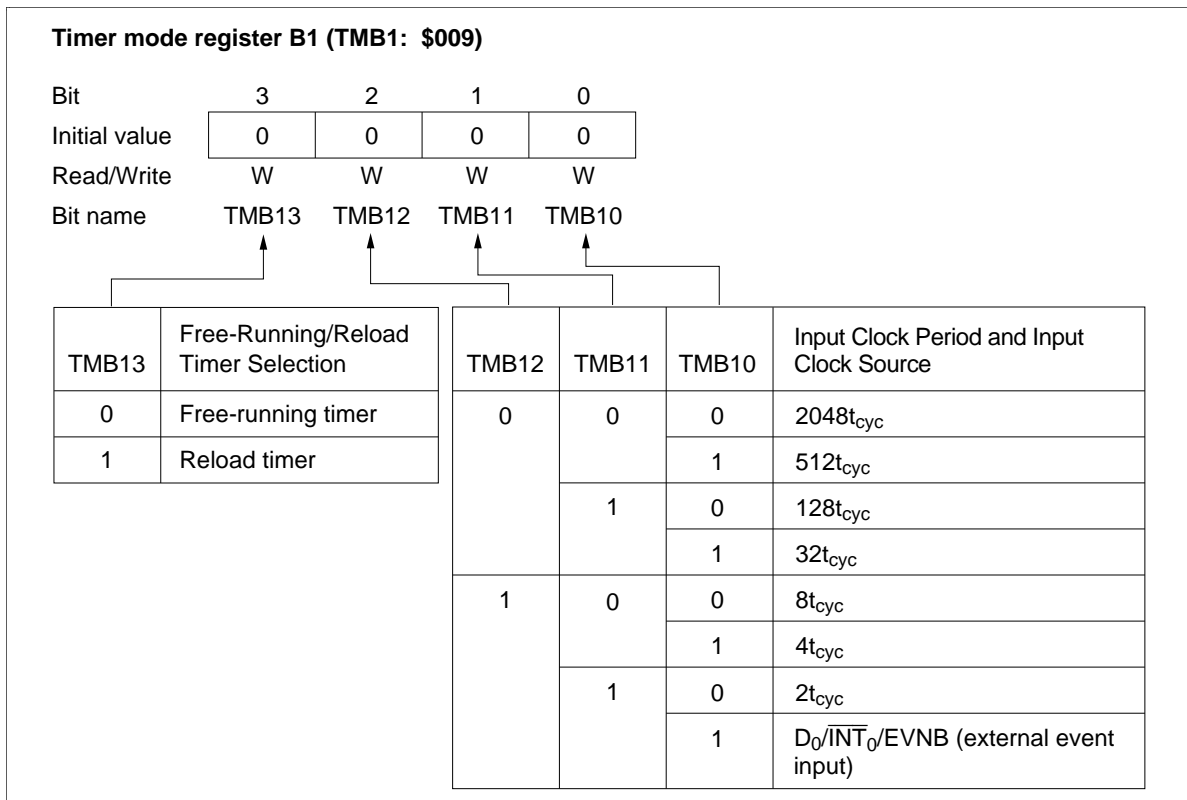

Figure 27 Timer Mode Register B1 (TMB1)
- **Timer mode register B1 (TMB1: \$009):** Four-bit write-only register that selects the free-running/reload timer, input clock, and prescaler division ratio, as shown in figure 27. It is reset to \$0 by an MCU reset. Data written to timer mode register B1 is valid after two instruction cycles. The initial setting of timer B, which is set by writing to timer write register B (TWBL: \$00A, TWBU: \$00B), should be programmed only after a mode change has been effective.